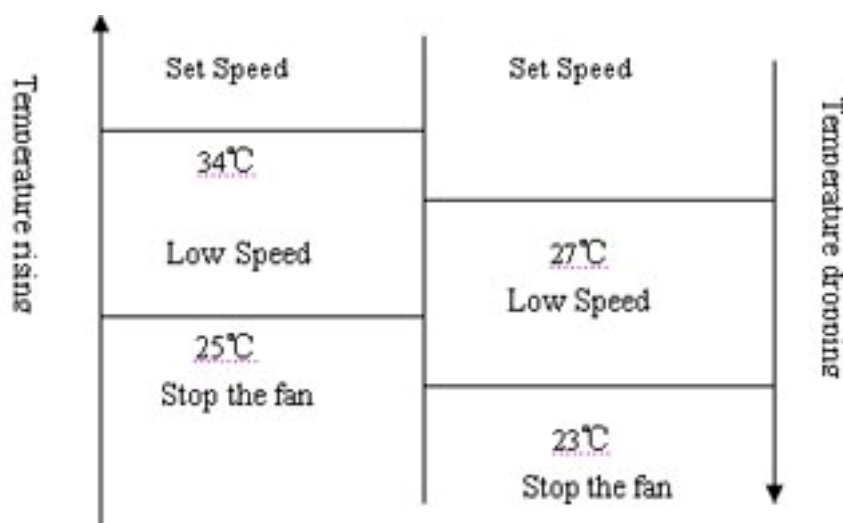

Figure 5 Anti-cold Wind
- a. When runing into the heating mode, once the compressor fails to comply with the start-up conditions, the wind speed is regulated according to the coil temperature in 2 min(including stopping the indoor fan motor), 2 min later the indoor fan motor stops.If the compressor starts up within 2 min, then operating by Figure 5.